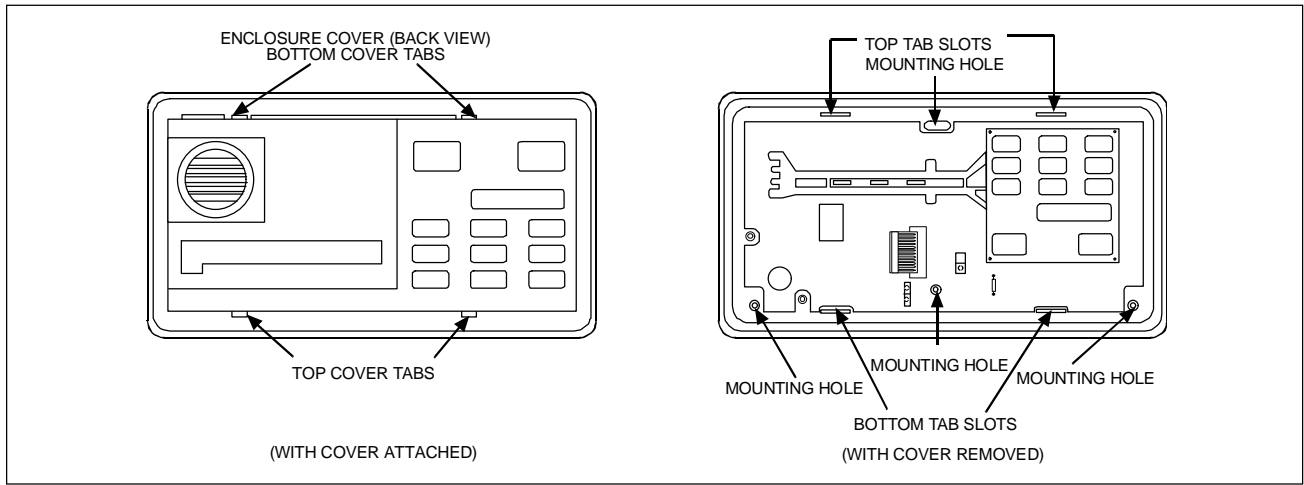

Figure 2: Installing the D279A
1. Remove the front cover from the enclosure base (see Figure 2). Use a small flat-blade screwdriver to gently push the two bottom cover tabs back. As the tabs are pushed back, lift the bottom of the cover away from the base. Remove the cover.